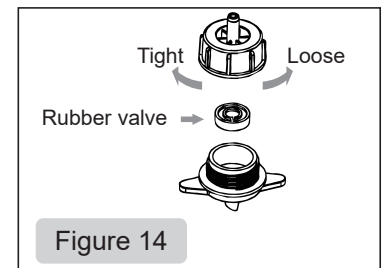

Figure 14
- 3) If there is no water coming out of a dripper, check and clean all parts of the dripper as shown in **Figure 14**.